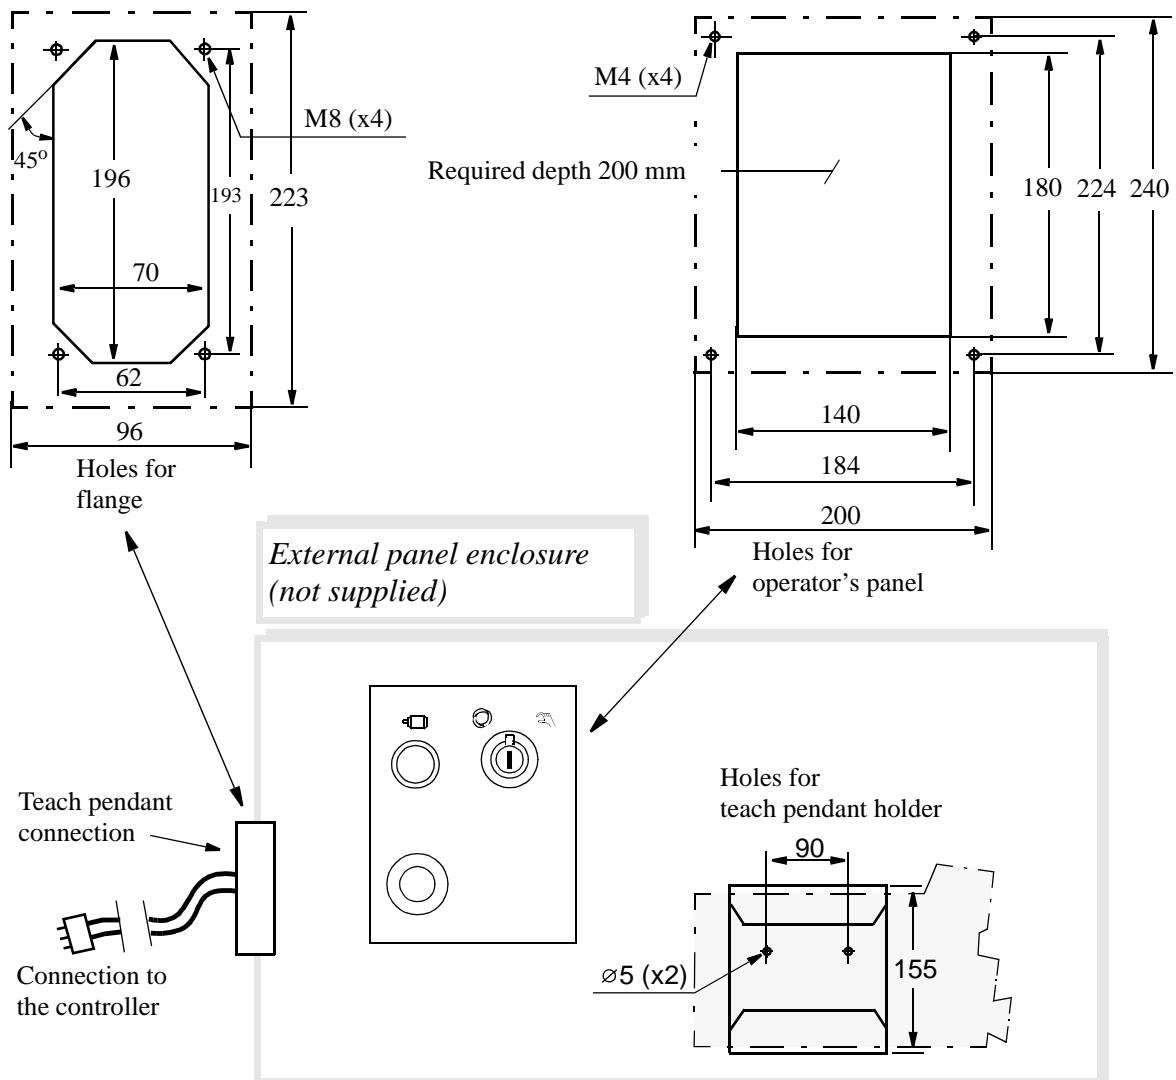

Figure 15 Required preparation of external panel enclosure (all dimensions in mm).
- 182 External, i.e. in a separate operator's unit. (See Figure 15 for required preparation)